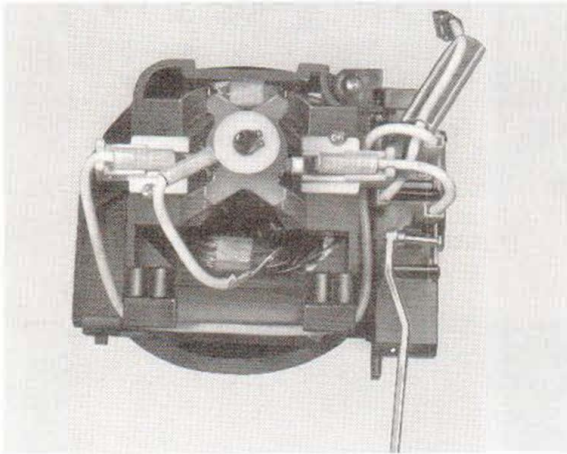

Figure 31. Motor Sprocket Removal
- A. Using T154, snap ring expander plier No. 0200, remove motor drive clip at rear of armature shaft. *See Figure 31.*